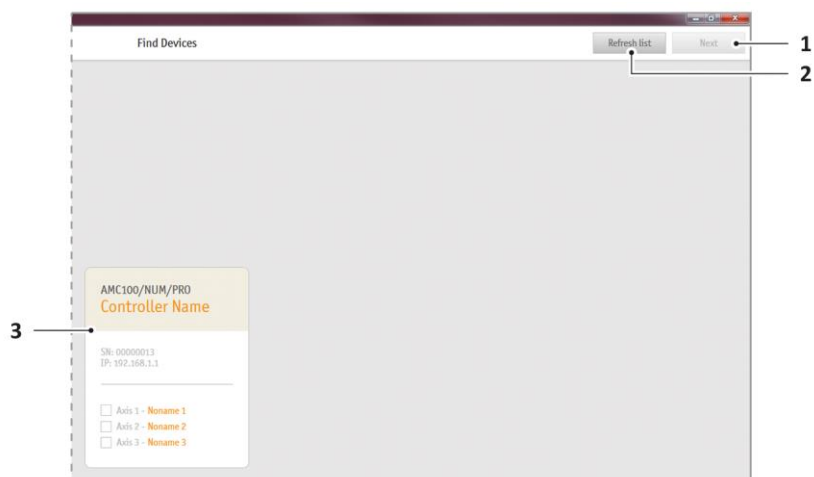

Figure 9 "Find Devices" screen, detail
- To refresh the list of controllers, click [Refresh list] in the header of the "Find Devices" screen (Figure 9/2).
**How** ○ To open the "Operation" screen, click [Next] (Figure 9/1) in the header of the "Find Devices" screen.